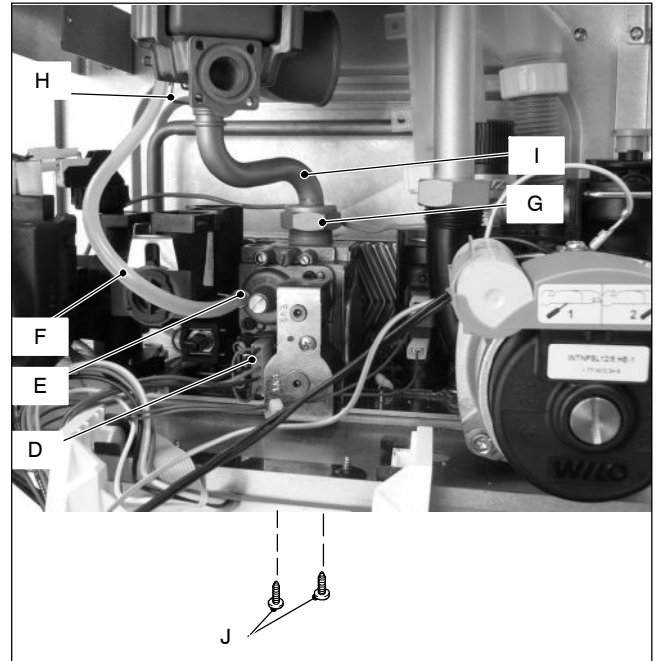

Fig. 11.12
- 2 Disconnect the connector D (Fig. 11.12).
- 4 Using pliers, remove the spring E and the rubber pipe F (Fig. 11.12).
- 5 Unscrew the connector G (Fig. 11.12), remove the fixing fork H and remove the pipe I.
- 6 Unscrew the screws J and remove the valve (Fig. 11.12).